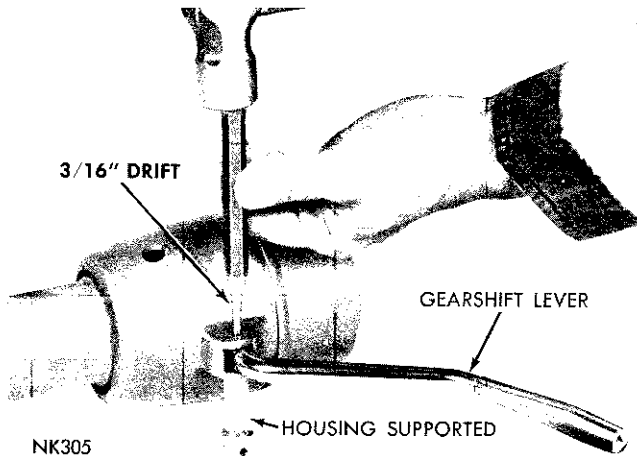

Fig. 9—Removing or Installing Gearshift Lever
(6) Support the gearshift housing on a small socket, drive out the roll pin and remove the gearshift lever (Fig. 9).
(9) With the gearshift housing in NEUTRAL position, insert the gearshift lever. Support the gearshift housing (Fig. 9) while driving the shift lever roll pin into place.